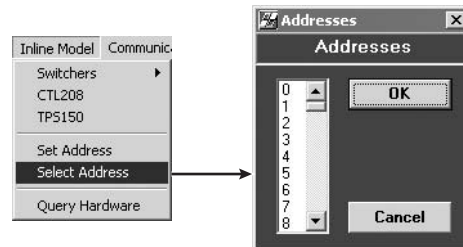

Figure 4-4 — Addresses window
5. Click *Inline Model > Select Address*. The Addresses window (figure 4-4) appears.
- Click *Inline Model* > *Select Address*. The Addresses window (figure 4-4) appears.